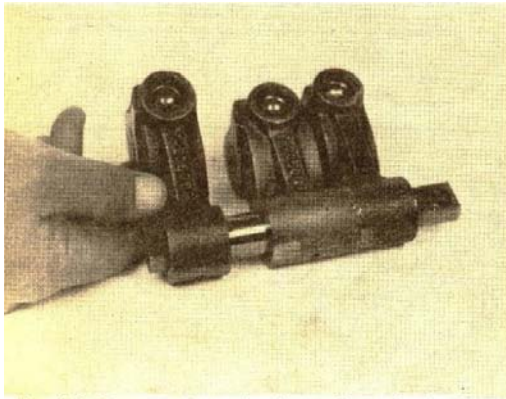

Fig. 3-2. Remove the rocker levers from the shaft
1. Remove the lever and spacer (when used) from the shaft Fig. 3-2.